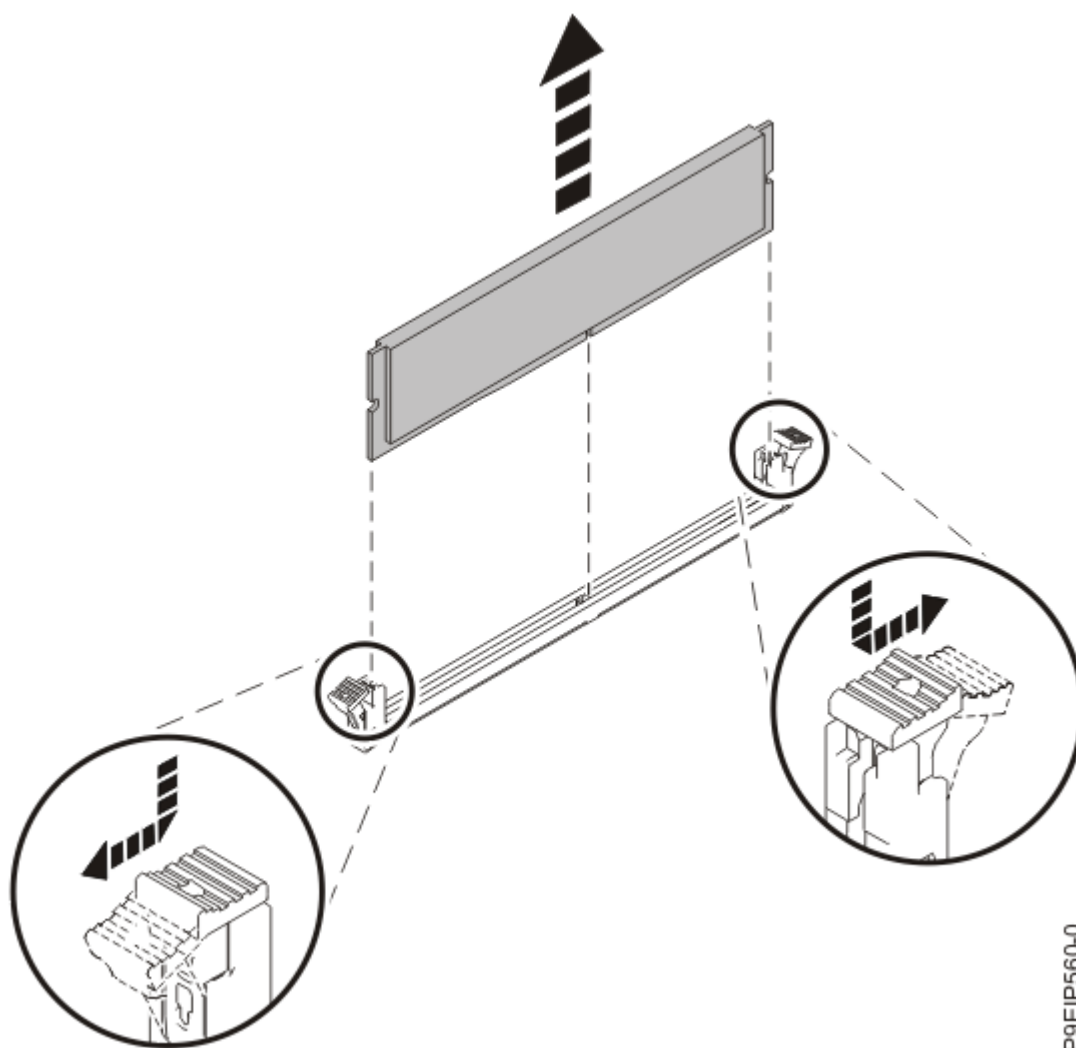

Figure 22. Removing the memory DIMM
- b) Unlock the memory DIMM by simultaneously pushing the locking tabs away from the memory DIMM, in the direction that is shown in Figure 22 on page 26. Be sure to unlock both tabs at the same time. The lever action of opening the tabs pushes the memory DIMM out of the slot.